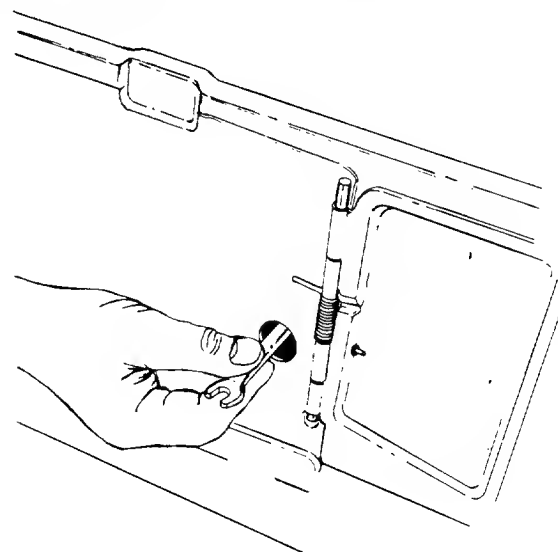

FIGURE 21.—Model 176R Only
3. **Models 166R and 176R only:** The fuel shut-off valve is located beneath the fuel tank. On Model 176R, an access hole is provided in the catcher panel. The fuel shut-off valve should be in the open position. See figure 20. Open fuel shut-off valve using a wrench if it is closed. See figure 21.